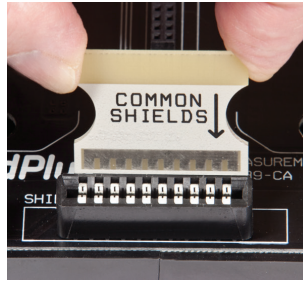

Figure 5.3a
If the design policy is to ground the fieldbus cable screens at the fieldbus power supply, then the "Shield" jumper should then be inserted in the connector as shown in Figure 5.3a. This will bring all of the shields to a common connection at the 'SG' terminal (17) and therefore to ground.